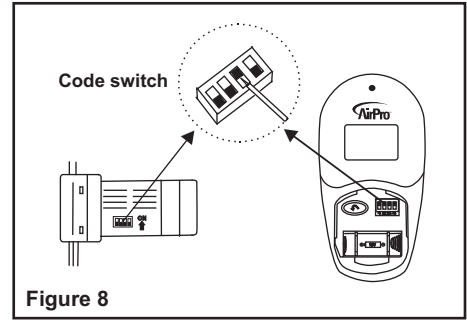

Figure 8
**NOTE:** This remote control unit is equipped with 16 code combinations to prevent possible interference from or to other remote units. The frequency switches on your receiver and transmitter have been preset at the factory. Please recheck to make sure the switches on the transmitter and the receiver are set to the same position, any combination of settings will operate the fan as long as the transmitter and receiver are set to the same position. (Fig. 8)